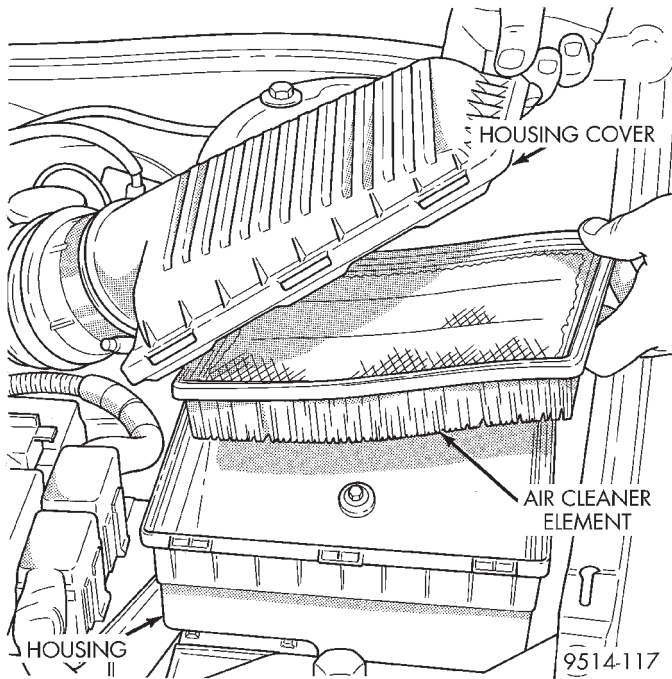

Fig. 97 Air Cleaner Housing and Element
- (2) Remove filter element (Fig. 97).
- (3) If necessary, clean the inside of the air cleaner housing.